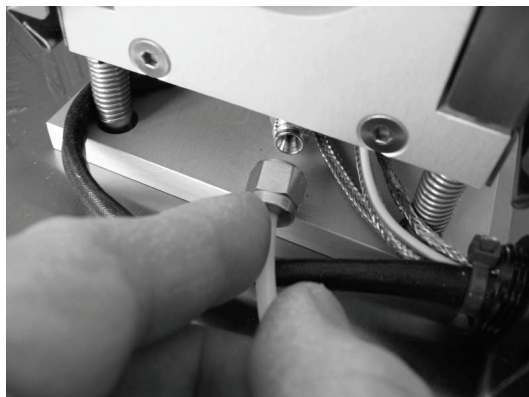

Figure 79 Replacing the gas cell discharge tube
5. Replace and secure the discharge tube (Figure 79).